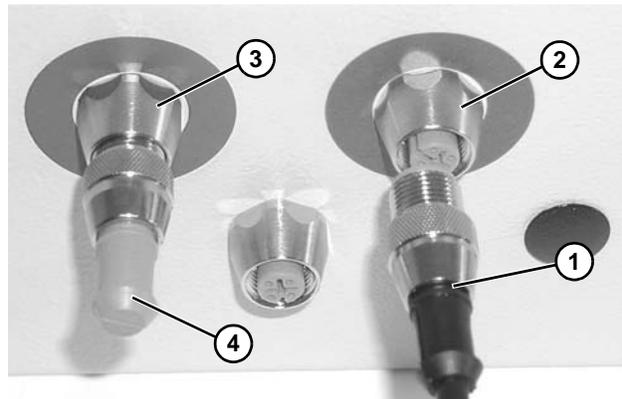

**Figure 46**
1. Connect linking cable (**Figure 46, item 1**) to Photo Eye Assembly (**Figure 46, item 2**).